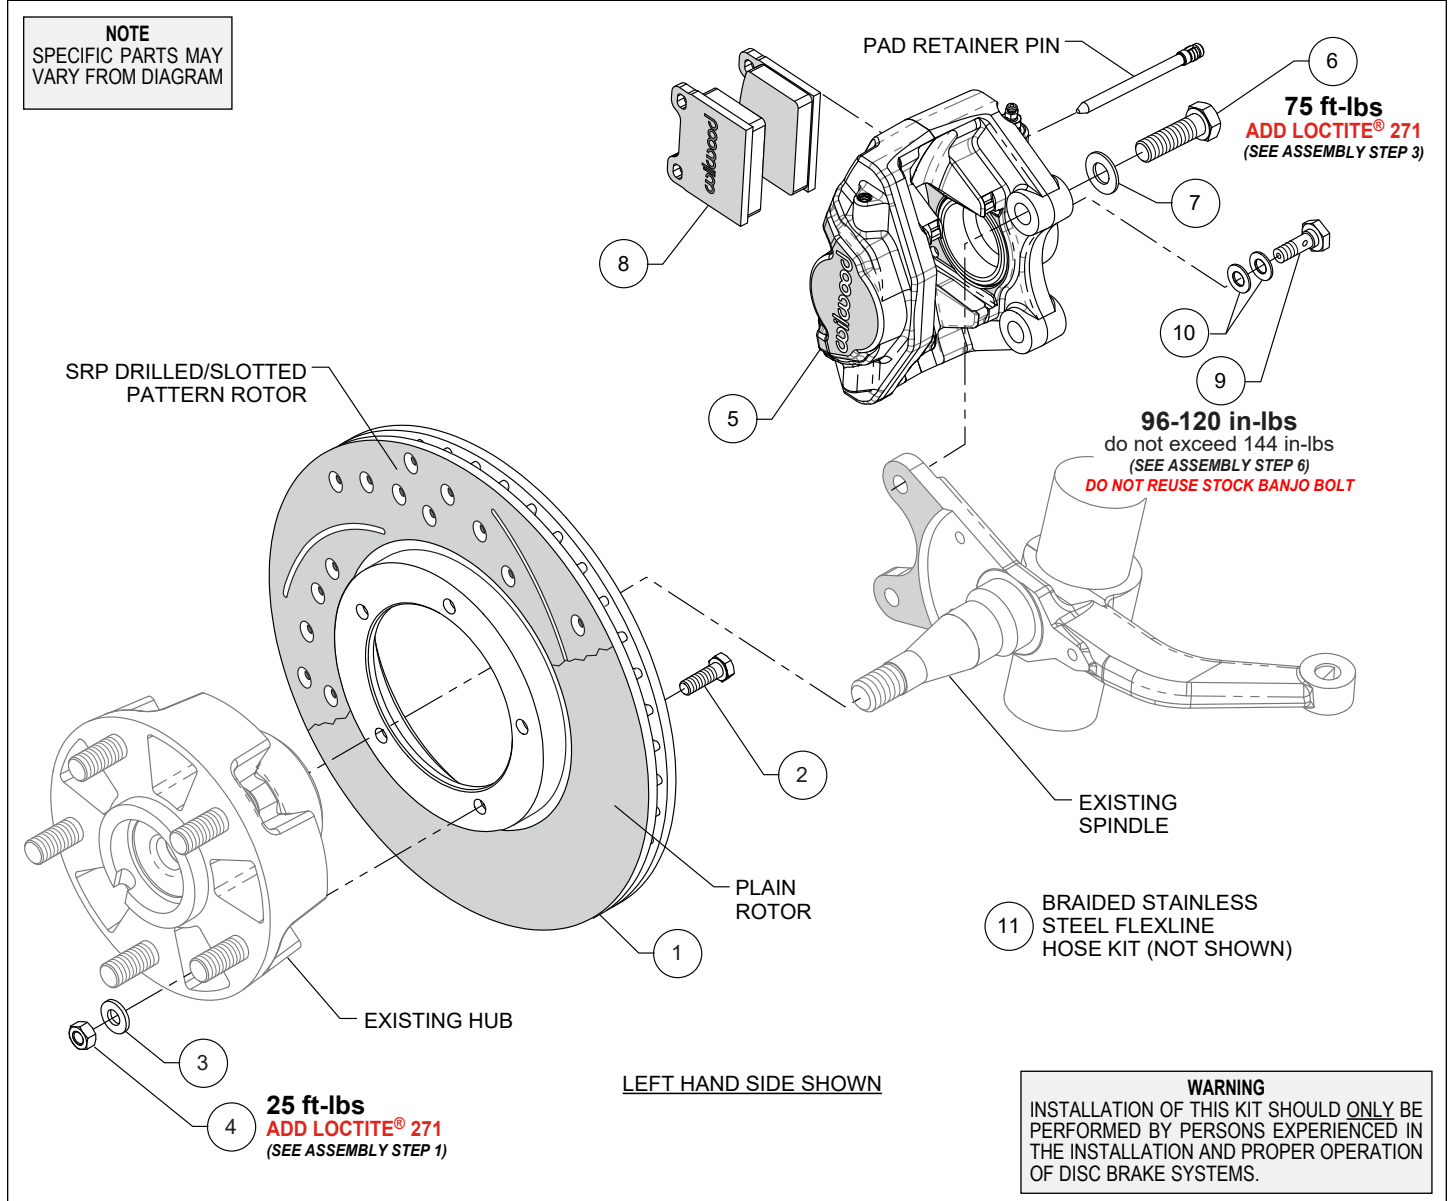

Figure 1. Typical Installation Configuration
**NOTE:** Numbers in parenthesis refer to the parts list and Figure 1 on the preceding pages.
**STEP 1** Orient the Wilwood rotor (1) and the existing OEM hub as shown in Figure 1 and Photo 1. Attach rotor to hub assembly using bolts (2), washers (3), and nuts (4). Apply red *Loctite*® 271 to the bolt threads, and torque nuts to value shown in Figure 1 using a criss-cross pattern.
**STEP 3** Mount the caliper (5) onto the OEM caliper mounting bosses of upright using bolts (6) and washers (7), as shown in
Figure 1 and Photo 2. Apply red *Loctite*® 271 to bolt threads, and torque to value shown in Figure 1.
using new chassis adapter fitting and retainer clip, Photo 6. Connect to caliper using banjo bolt (9) and crush washers (10), as shown in Figure 1 and Photo 7. Do not use thread sealant on banjo bolt. Torque to minimum value shown in Figure 1. Check for leakage, increasing torque only to stop leakage without exceeding maximum specification. Replace crush washers and banjo bolt whenever reassembly is required. **Ensure hoses are routed to prevent contact with moving suspension, brake or wheel components.**